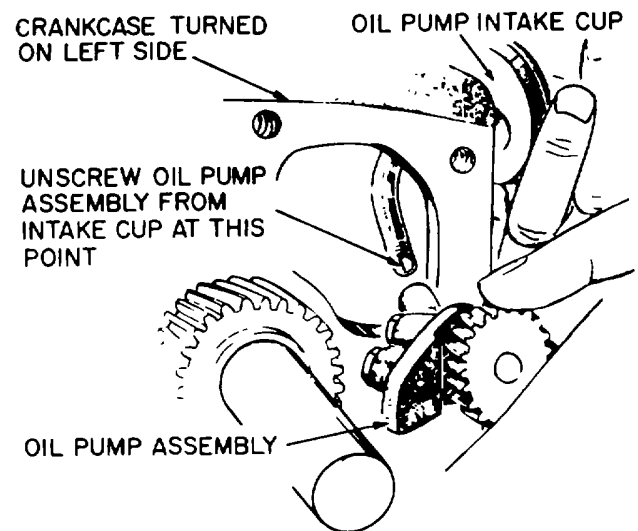

Figure 6-14. Oil Pump
(1) Remove flywheel and gear cover (paragraph 6-8 and 6-9).
(2) Remove two screws (183) and washers (184) holding pump assembly (182) to engine and replace complete pump assembly, if worn.
b. Installation (fig. 6-14). Oil the pump to prime it before reinstalling. Use a new gasket.